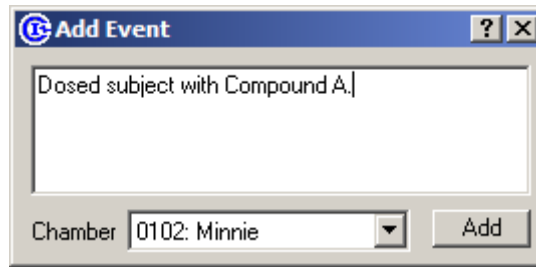

Figure 45 - Add Event Prompt
1. Click “Add Event” from the main “Experiment” Oxyman menu to display the “Add Event” prompt as in Figure 45.